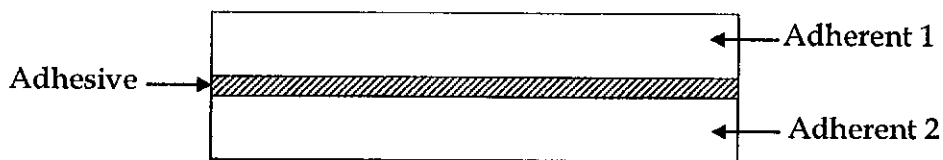

Figure Q3
- i) Describe briefly about *smart materials* by giving four (04) examples. [2.0 Marks]
- iii) Propose four (04) possible places/equipment that can be used to install piezoelectric materials for energy harvesting process. Explain your answer. [2.0 Marks]
- ii) Discuss briefly the possible failure modes of a given component that has been joined using polymeric adhesive, under tensile load as shown in Figure Q3. [3.0 Marks]
- Q4. a) Last two decades, composite materials were integrated to a number of structural applications. Boeing 787 Dreamliner is one such application in aircraft manufacturing industry. List out three (03) main advantages of using composite materials for aircraft applications? [3.0 Marks]